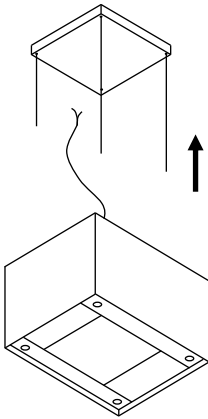

Fig 9
6. Lift the Turandot up to the strings (Fig 9).